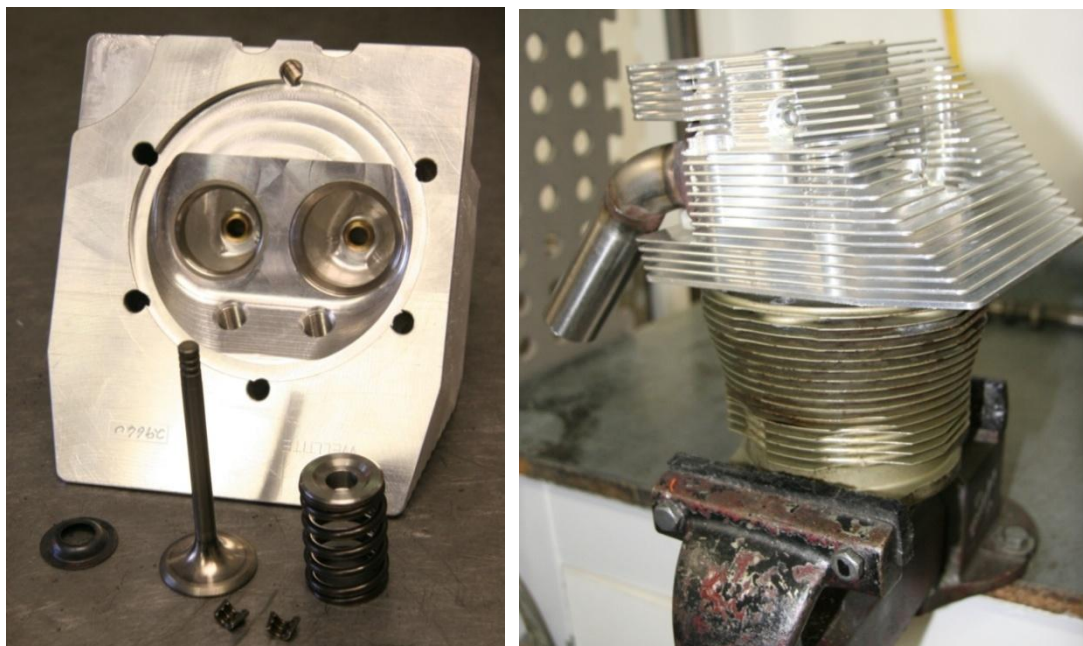

Figure 93 – Valves Assembly, Cylinder Head / Cylinder Lapping
- If second-hand cylinder heads are being used they must be lapped to seal onto the cylinder spigot. The process is similar to grinding a valve – valve grinding paste is applied to the cylinder spigot and the head rotated against it. An old, unservicable cylinder, held in a vice, should be used for this task. This step is not necessary with new heads. Figure 93 refers.